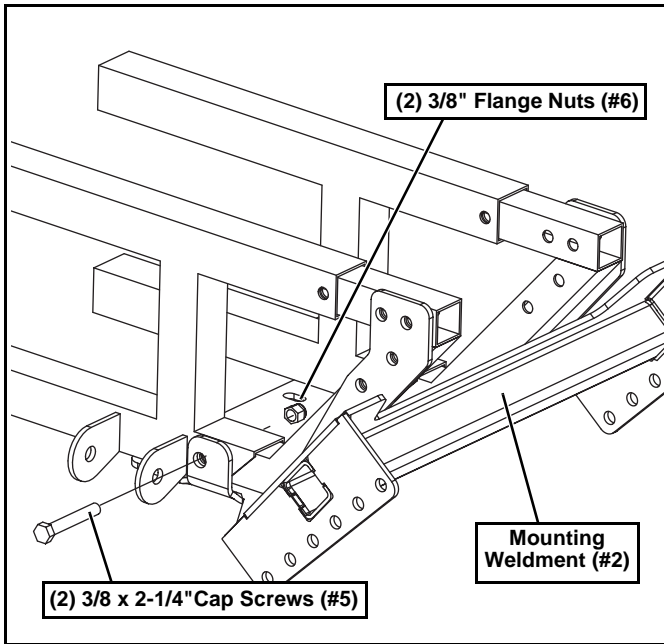

Figure 7
- Place the Mounting Weldment (#2) onto the frame. Secure the lower side of item #2 by reinstalling the hardware that was removed from step 2. (See Figure 7.)